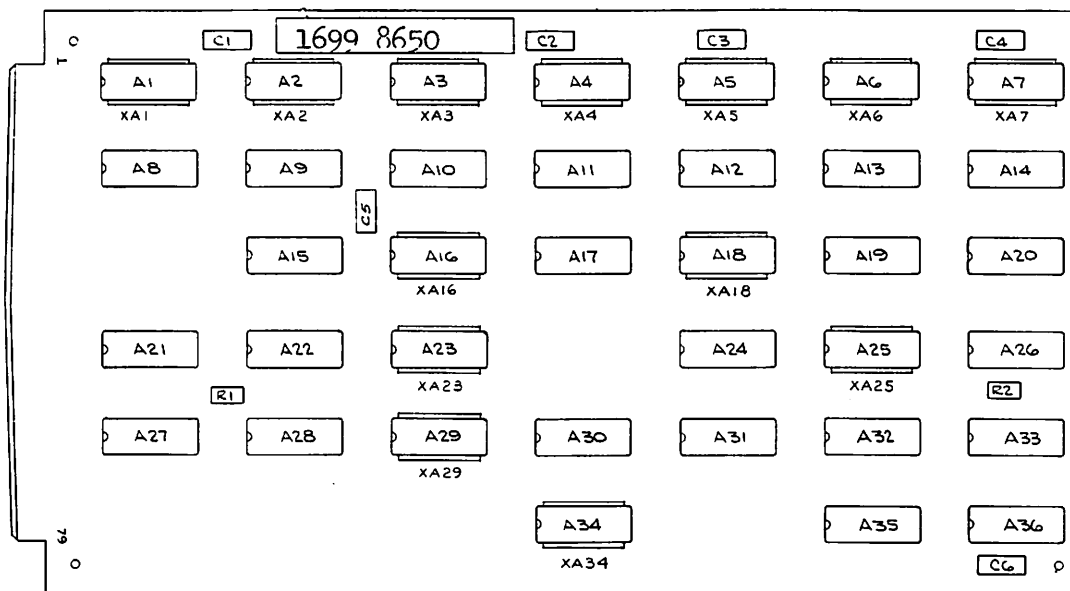

FIGURE VI.4-6 COMMUNICATIONS INTERFACE (H BOARD) 1699 8650
To set up the terminal address (characters AD1 and AD2), remove the I-C chips, one at a time, from the H board (figure VI.4-6) and set up address in accordance with table VI.4-4.
To set up the address for character GSL, remove I-C chips, one at a time, from the H board (figure VI.4-6) and set up address in accordance with table VI.4-4.
To inhibit broadcast select, remove I-C chip (A34) from socket on H board (figure VI.4-6) and bend out pin 8 on chip. Replace chip in socket.
To set up the group poll address (characters AD1 and AD2), remove the I-C chips, one at a time, from the H board (figure VI.4-6) and set up address in accordance with table VI.4-5.
To select characters 1 or 0 for transmission number, remove I-C chip (A7) from socket on H board (figure VI.4-6) and bend out pin 12 on chip. Replace chip in socket and ensure that pin 5 of chip (A5) and pin 12 of chip (A6) are connected.
To select characters A or @ for transmission number, remove I-C chip (A5) from socket on H board (figure VI.4-6) and bend out pin 5 on chip. Replace chip in socket and then remove chip (A6), bend out pin 12 on chip and replace in socket. Ensure that pin 12 on chip A7 is connected.
- A. On H board (figure VI.4-6), remove the following I-C chips from sockets, bend out specified pins and replace chips in respective sockets:
- A. Remove I-C chip (A18) from socket on H board (figure VI.4-6) and bend in pin 13 so that it makes contact when chip is replaced in socket.
To inhibit the question mark (?) that is displayed in place of a received character with a parity error, remove I-C chip (A25) from socket on H board (figure VI.4-6) and bend out pin 10 on chip. Then remove I-C chip (A18) from socket on H board and bend out pin 10 on chip. Replace chips in respective sockets.